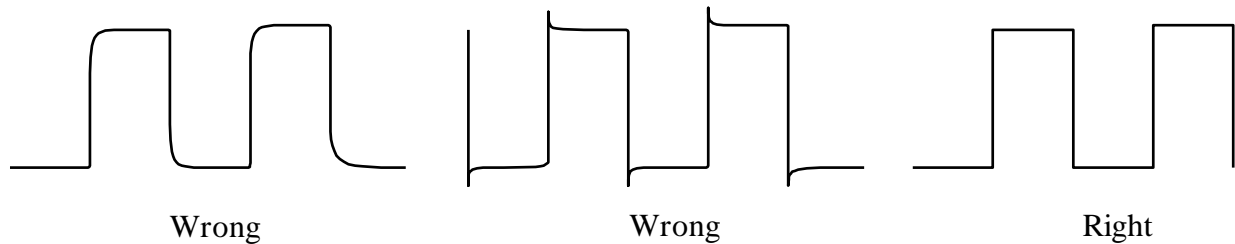

Figure L1.1
- (d) With a nonconductive adjustment tool, gently adjust the compensation control on the probe tip while observing the image displayed on the screen. Continue to adjust the probe until the square wave has as “flat a top” as possible, as in the far right of Fig. L1.1.